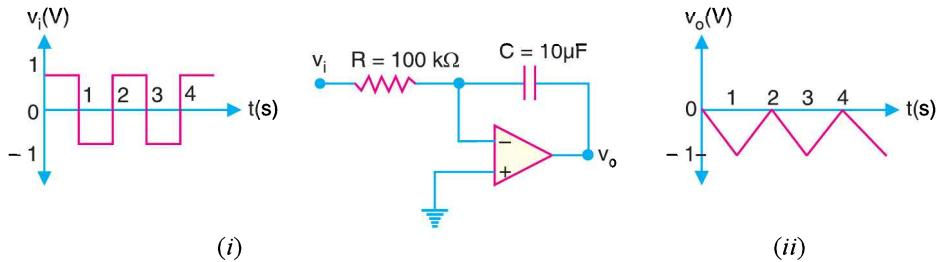

Fig. 25.84
**Example 25.50.** Fig. 25.84 (i) shows the OP-amp integrator and the square wave input. Find the output voltage.
When we integrate a constant, we get a straight line. In other words, when input voltage to an integrator is constant, the output is a linear ramp. Therefore, the integration of the square wave results in the triangular wave as shown in Fig. 25.84 (ii). Since the input to the integrator is applied to the inverting input, the output of the circuit will be 180° out of phase with the input. Thus, when the input goes positive, the output will be a negative ramp. When the input is negative, the output will be a positive ramp. Fig. 25.84 (ii) shows this relationship.